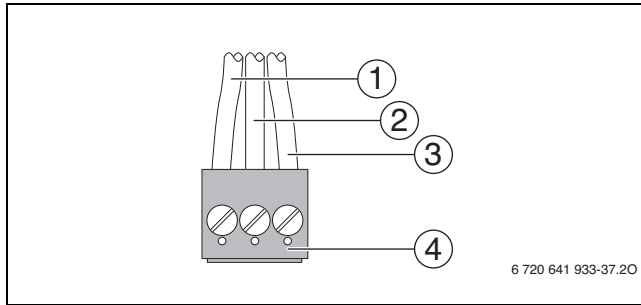

Fig. 49 Attach plug (external DHW tank loading pump or 3-way valve)
- ▶ Connect cable to the **red plug** according to Fig. 49.